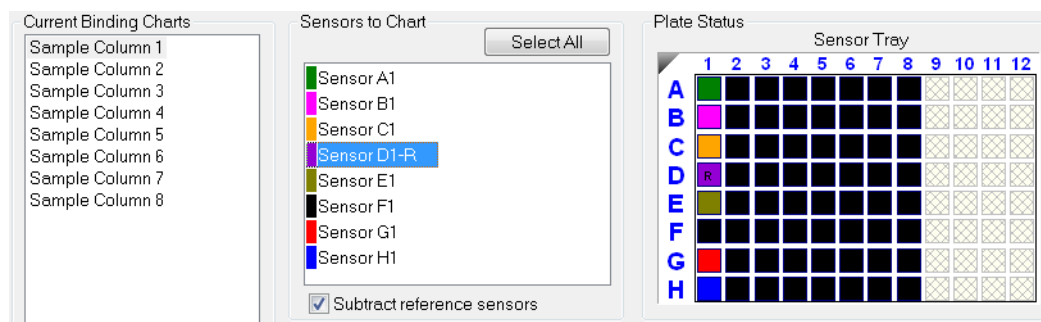

Figure 6-58: Subtract Reference Sensors check box in the Runtime Binding Chart
The selected biosensor will be shown with an **R** in the **Sensors to Chart** list and **Sensor Tray** (see Figure 6-58).
2. Click the **Subtract reference sensors** check box (see Figure 6-58).